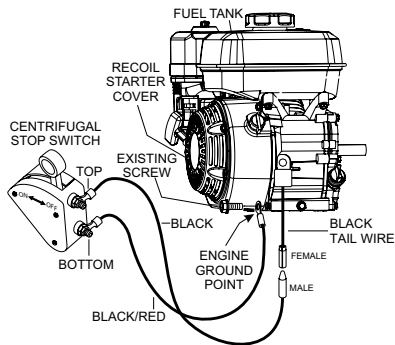

Figure 10. Engine Ground Point
2. Remove the existing bottom mounting screw on the recoil starter cover (Figure 10) and connect the **bottom** wire from the centrifugal stop switch to this engine ground point.